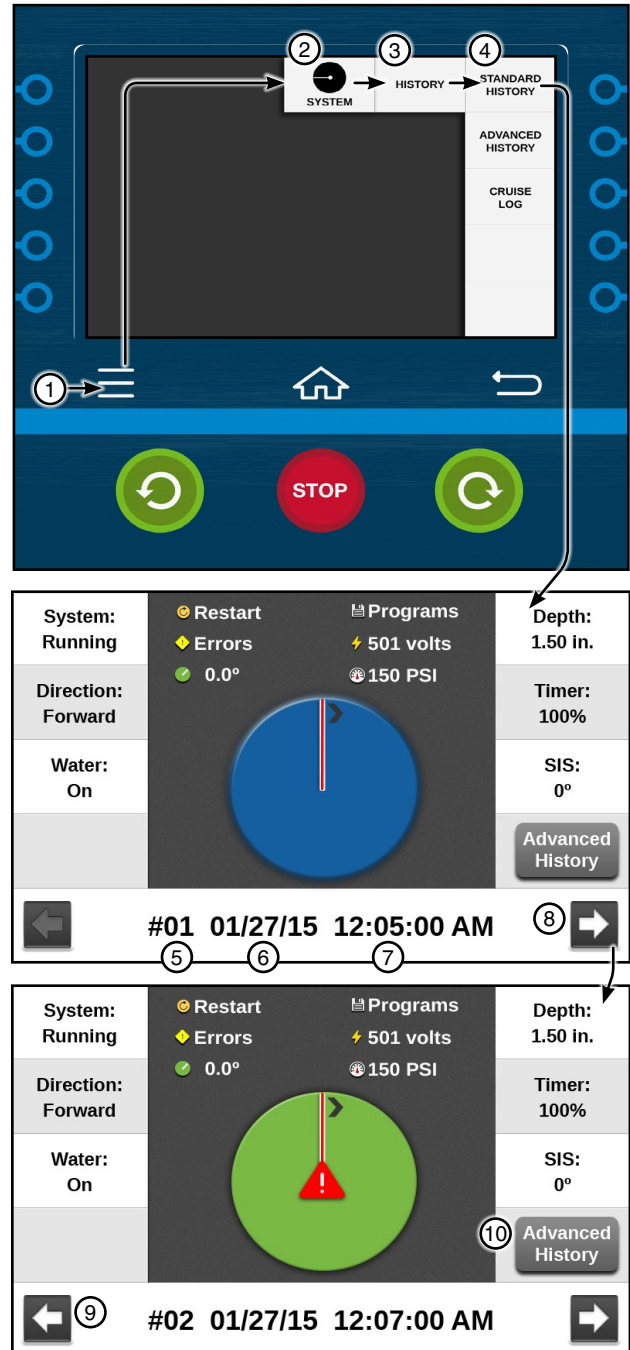

Figure 69-1
History provides a record of the 50 most recent machine operation status changes via the Standard and Advanced Screens. Refer to Figure 69-1.
1. To view Standard History, push **Menu**, **System**, **History**, and **Standard History**. See Figure 69-1.